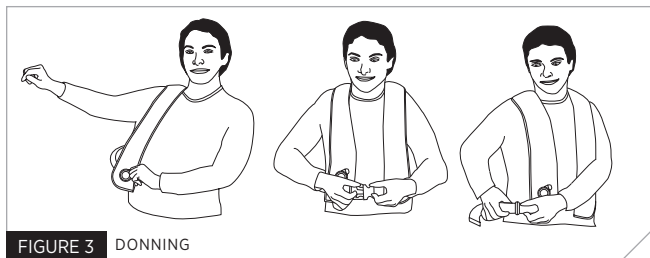

FIGURE 3 DONNING
- 2) Put the life jacket on just like a jacket (Fig. 3) and fasten the front buckle. Secure the belt's loose end in the belt loop.